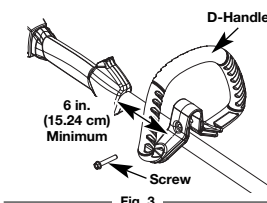

Fig. 3
1. Loosen the clamp screw on the handle just enough to move it (Fig. 3).
3. Tighten the clamp screw, until the D-handle is secure. (Fig. 3)